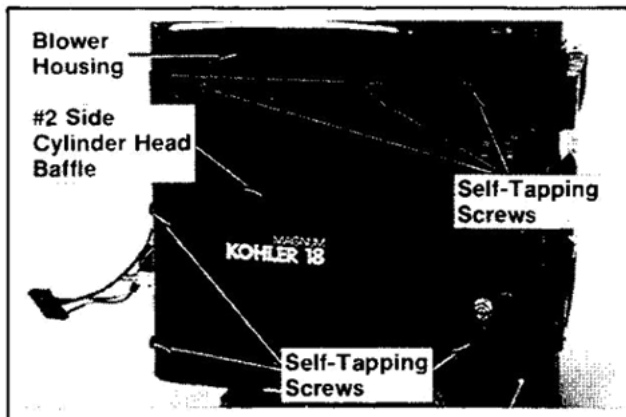

Figure 11-45. Installing #2 Side Cylinder Head Baffle.
5. Install the #2 side cylinder head baffle and self-tapping screws. Refer to Figure 11-45.